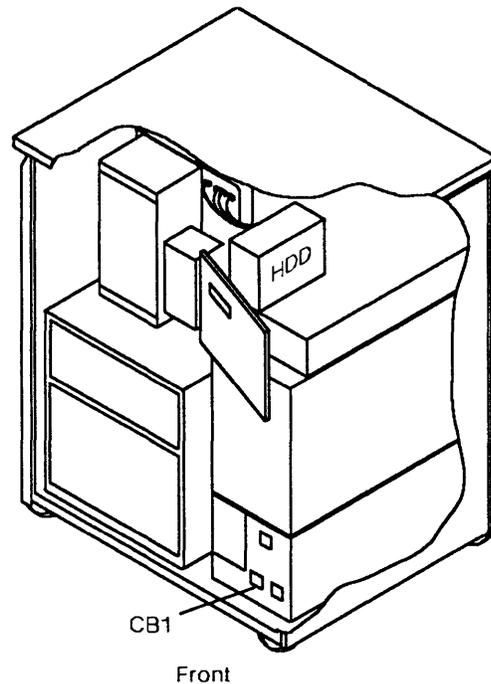

Figure 4-75. HDD and CB1 Locations
For physical locations, refer to Figure 4-75.
- 3) Switch CB1 OFF. Refer to Figure 4-75